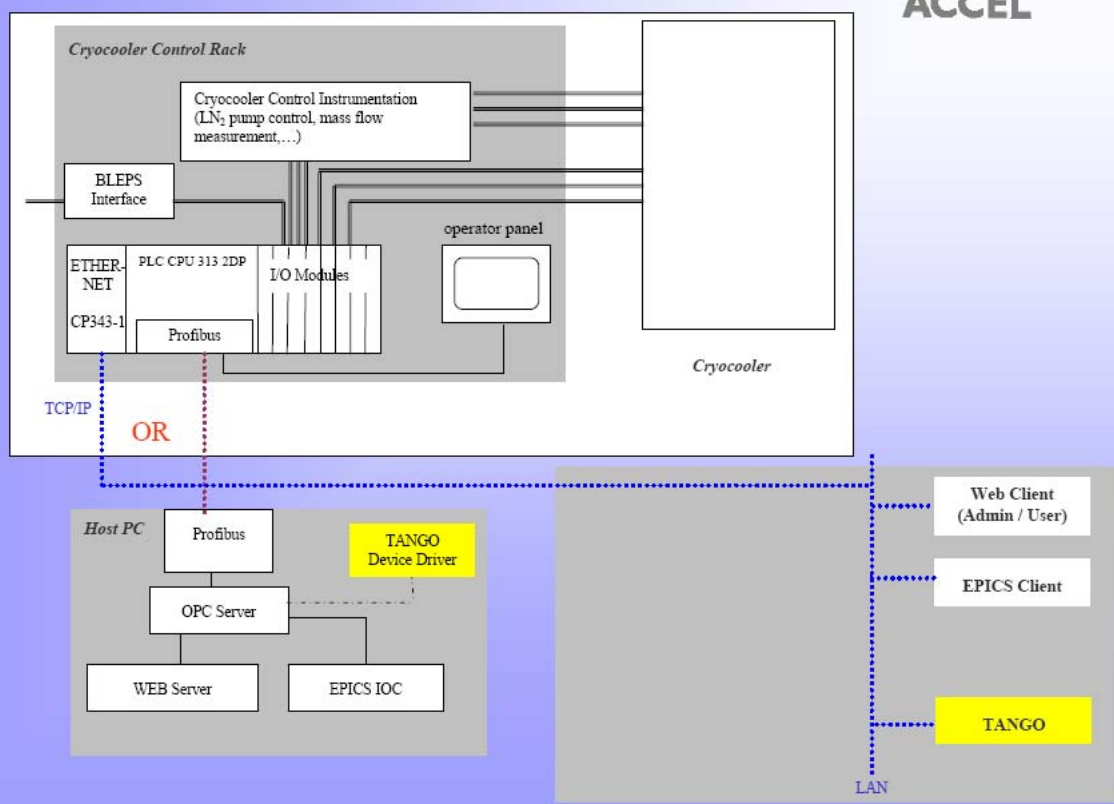

Figure 2
- Alternative solutions to realize the data exchange were described (see figure 2 at the end of this document)